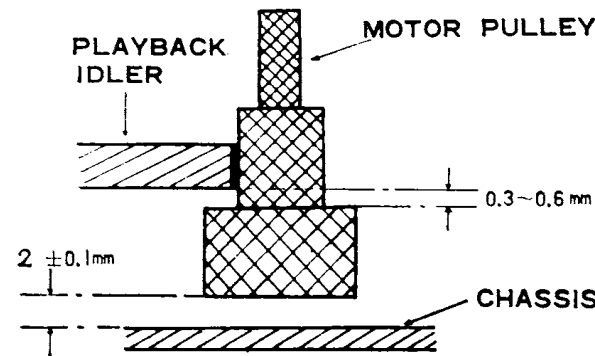

Fig. 28
b) Installation position of motor pulley (Fig.28)